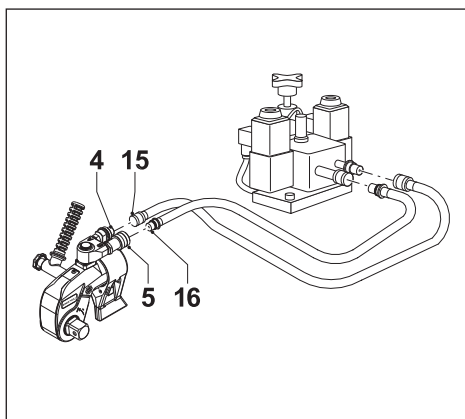

Fig. 7
3.7 To Connect the Hoses (Fig. 7)